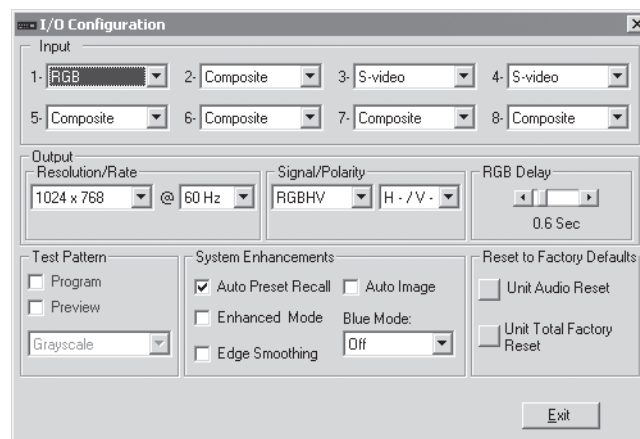

Figure 5-4 — Control program I/O Configuration window
6. If desired, on the task bar, click *Tools > I/O Configuration* to configure the video inputs and outputs in the I/O configuration window (figure 5-4).